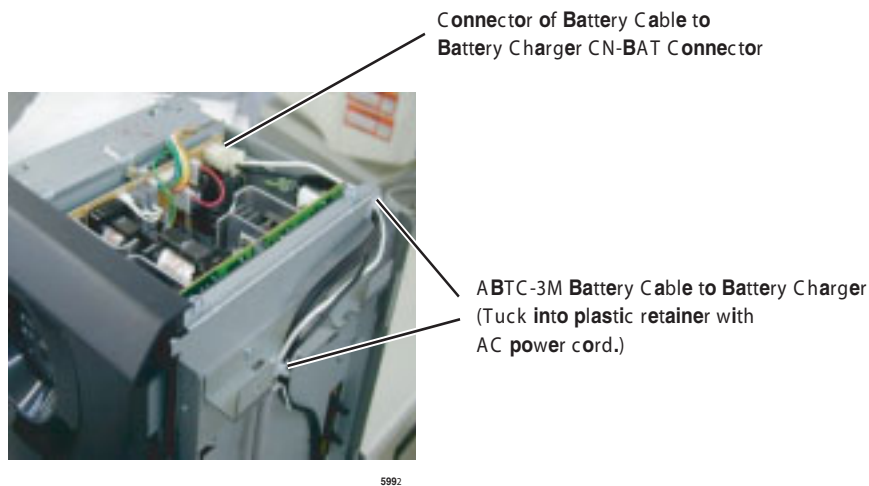

Figure 2-10 Cable Wiring for the Base and Expansion Cabinets (Top view)
4. Run the ABTC-3M battery cable from the batteries to the ABCS battery charger located in the CTX100 power supply. Dress the battery cable within the CTX100 cabinet(s) carefully (see Figures 2-10~2-13).